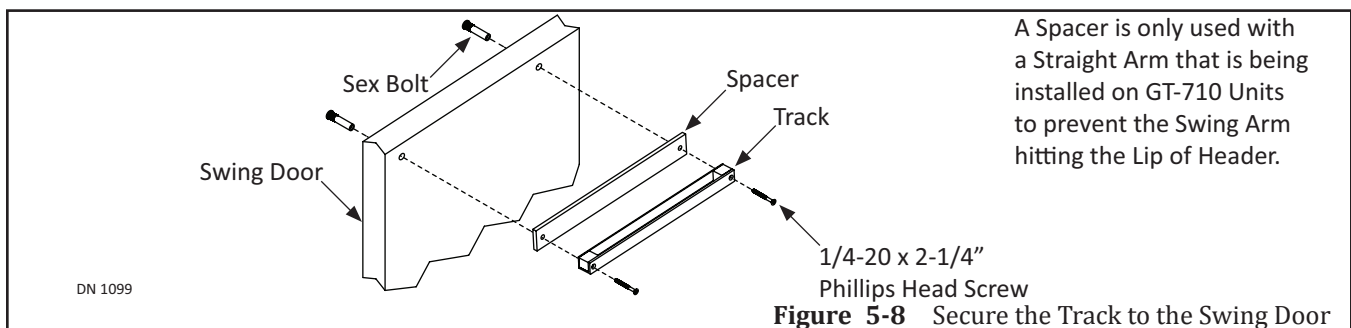

Figure 5-8 Secure the Track to the Swing Door
3. Drill (2) 3/8 inch bolt holes all the way through the Swing door.
- a. If the wall/frame is not straight, vertical, plum etc., install (1) Spacer (21-0902) behind the Track only if Reveal has a variance of zero to 1/4 inch and a Straight Arm is being installed.
6. Secure the Track to the Swing Door with (2) 1/4-20 x 2-1/4" Screws. Please see Figure 5-8.